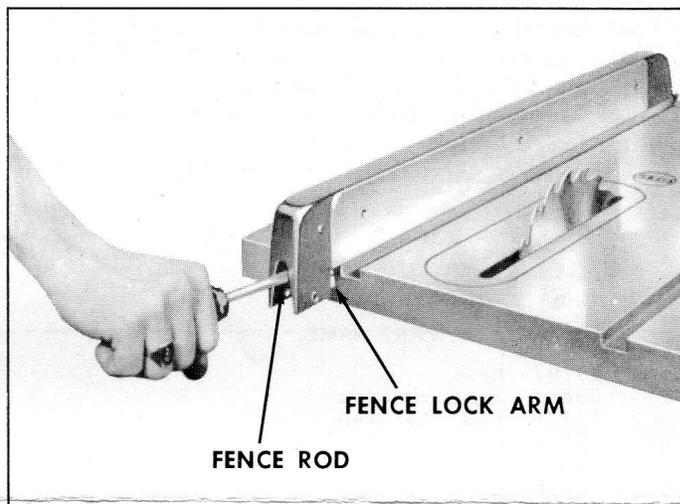

FIGURE 7
1. With the Cam Lock Handle in the unlocked position, turn Fence Rod, No. 51, in a clockwise direction to attain required pressure. (See Fig. 7).